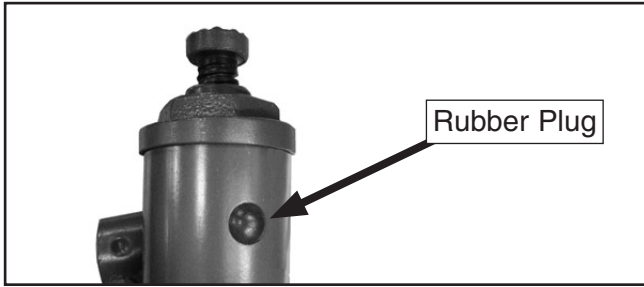

Figure 2. Oil fill plug.
2. With the ram completely retracted into the cylinder, remove the rubber plug (**Figure 2**), fill the reservoir with any standard hydraulic oil until oil runs from the port. Reinstall the plug.